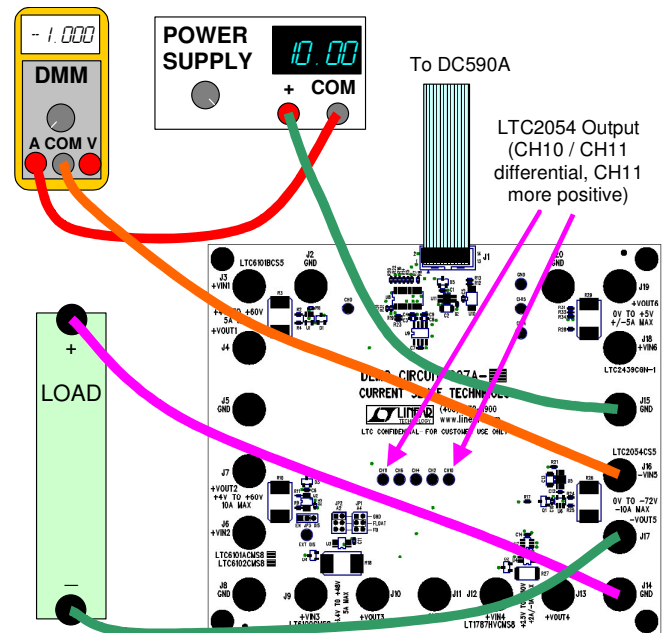

Figure 11. LTC2054 Power and Load Connection
1. Refer to Figure 11 for the following connections.
5. For time-domain measurements and/or stand-alone evaluation, the current-monitor output signal is available differentially on the CH10/CH11 turrets as indicated in Figure 11.